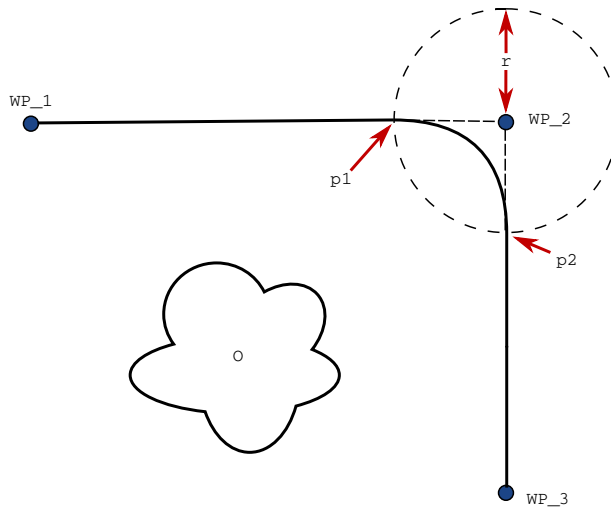

Figure 14.3: Blend over WP\_2 with radius  $r$ , initial blend position at  $p_1$  and final blend position at  $p_2$ .  $O$  is an obstacle.
**Blend parameters** Apart from the waypoints, multiple parameters will influence the blend trajectory (see figure 14.3):